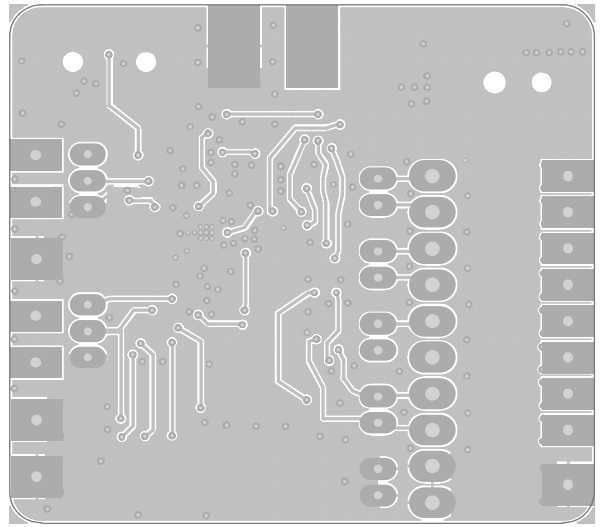
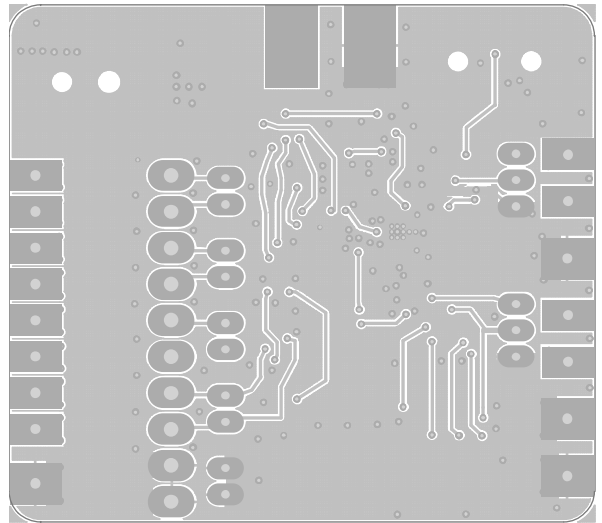

Figure 10. Bottom Layers
Figure 11. Mirrored Bottom Layers
- Use a solid polygon plane on the other side of the PCB for the area of the vias, which are placed on the thermal pad of the chip (see Figure 10 and Figure 11). This polygon serves as both the EMI shielding ground plane and the heat sink for the SSM2302.